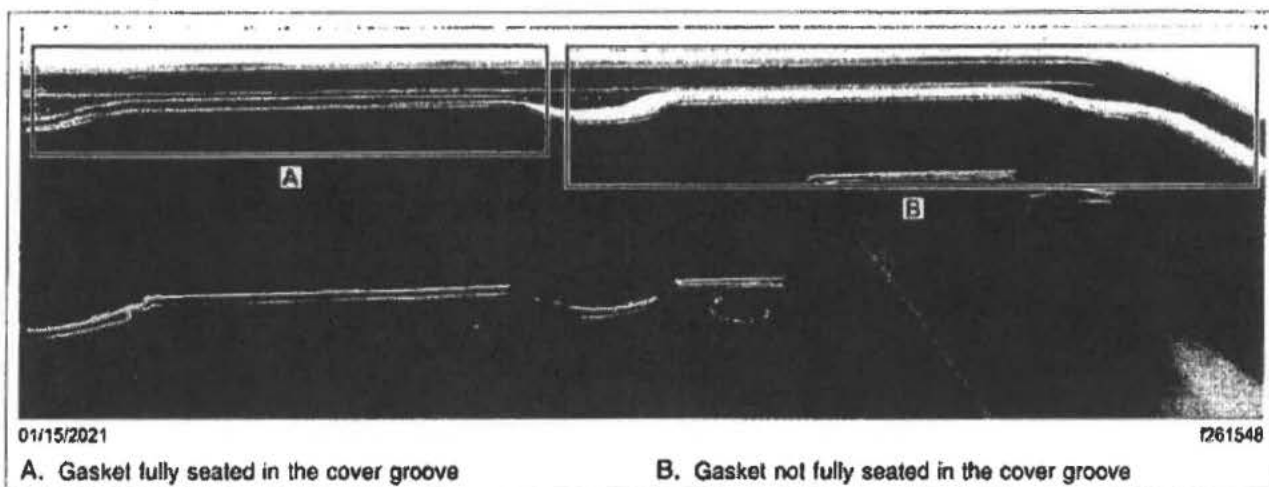

**Fig. 4, Example of Correct and Incorrect Seating of Gasket**
13. Confirm the gasket is properly seated into the groove on the cover. If the gasket is damaged, replace it. See Fig. 4.